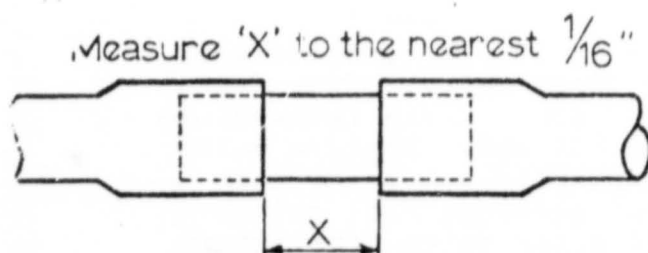

Figure 2
- b) Accurately measure the distance between the swedges. (The length of the exposed connecting nipple) See Fig. 2.